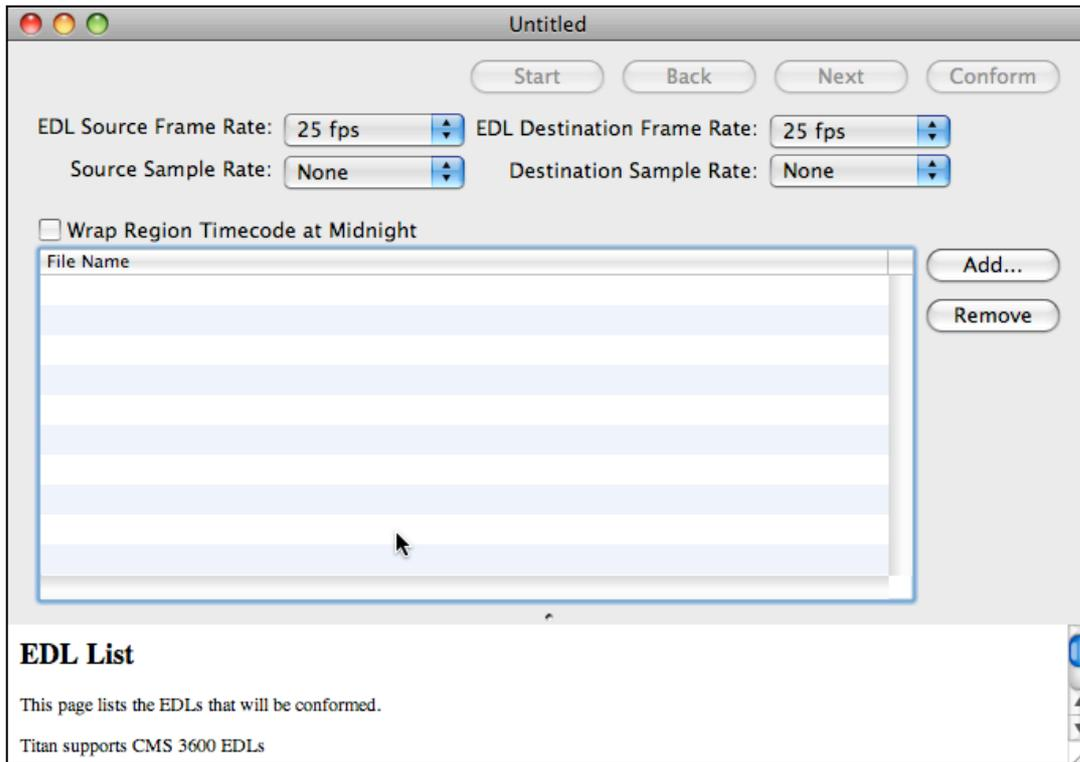

Figure 6 New Flash Conform window
- If Titan is running, on the File menu select **New Flash Conform** to open a new Flash Conform processing window (shown in Figure 6).